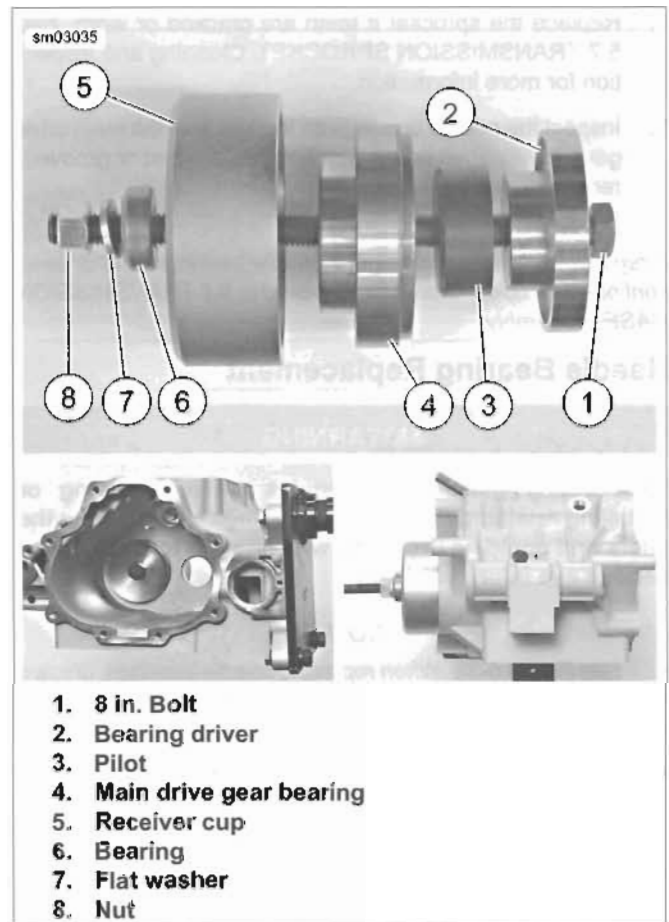

Figure 6-36. Removing Main Drive Gear Bearing
13. See Figure 6-36. Slide PILOT (Part No. HD-35316-10) (3) over small end of BEARING DRIVER (Part No. HD-35316-9) (2).
14. Apply a light coat of graphite lubricant to the threads of the 8 IN. BOLT (Part No. HD-35316-4A) (1) and insert through bearing driver and pilot.
15. Insert bolt with bearing driver and pilot into right side of transmission case, through main drive gear bearing (4). Make sure bearing driver fits up against main drive gear bearing and pilot is centered in bearing bore.
16. At left side of case, slide RECEIVER CUP (Part No. HD-35316-11) (5) onto bolt and over main drive gear bearing. Install BEARING (Part No. RS-25100-200) (6), flat washer (7) and nut (8) over end of bolt.